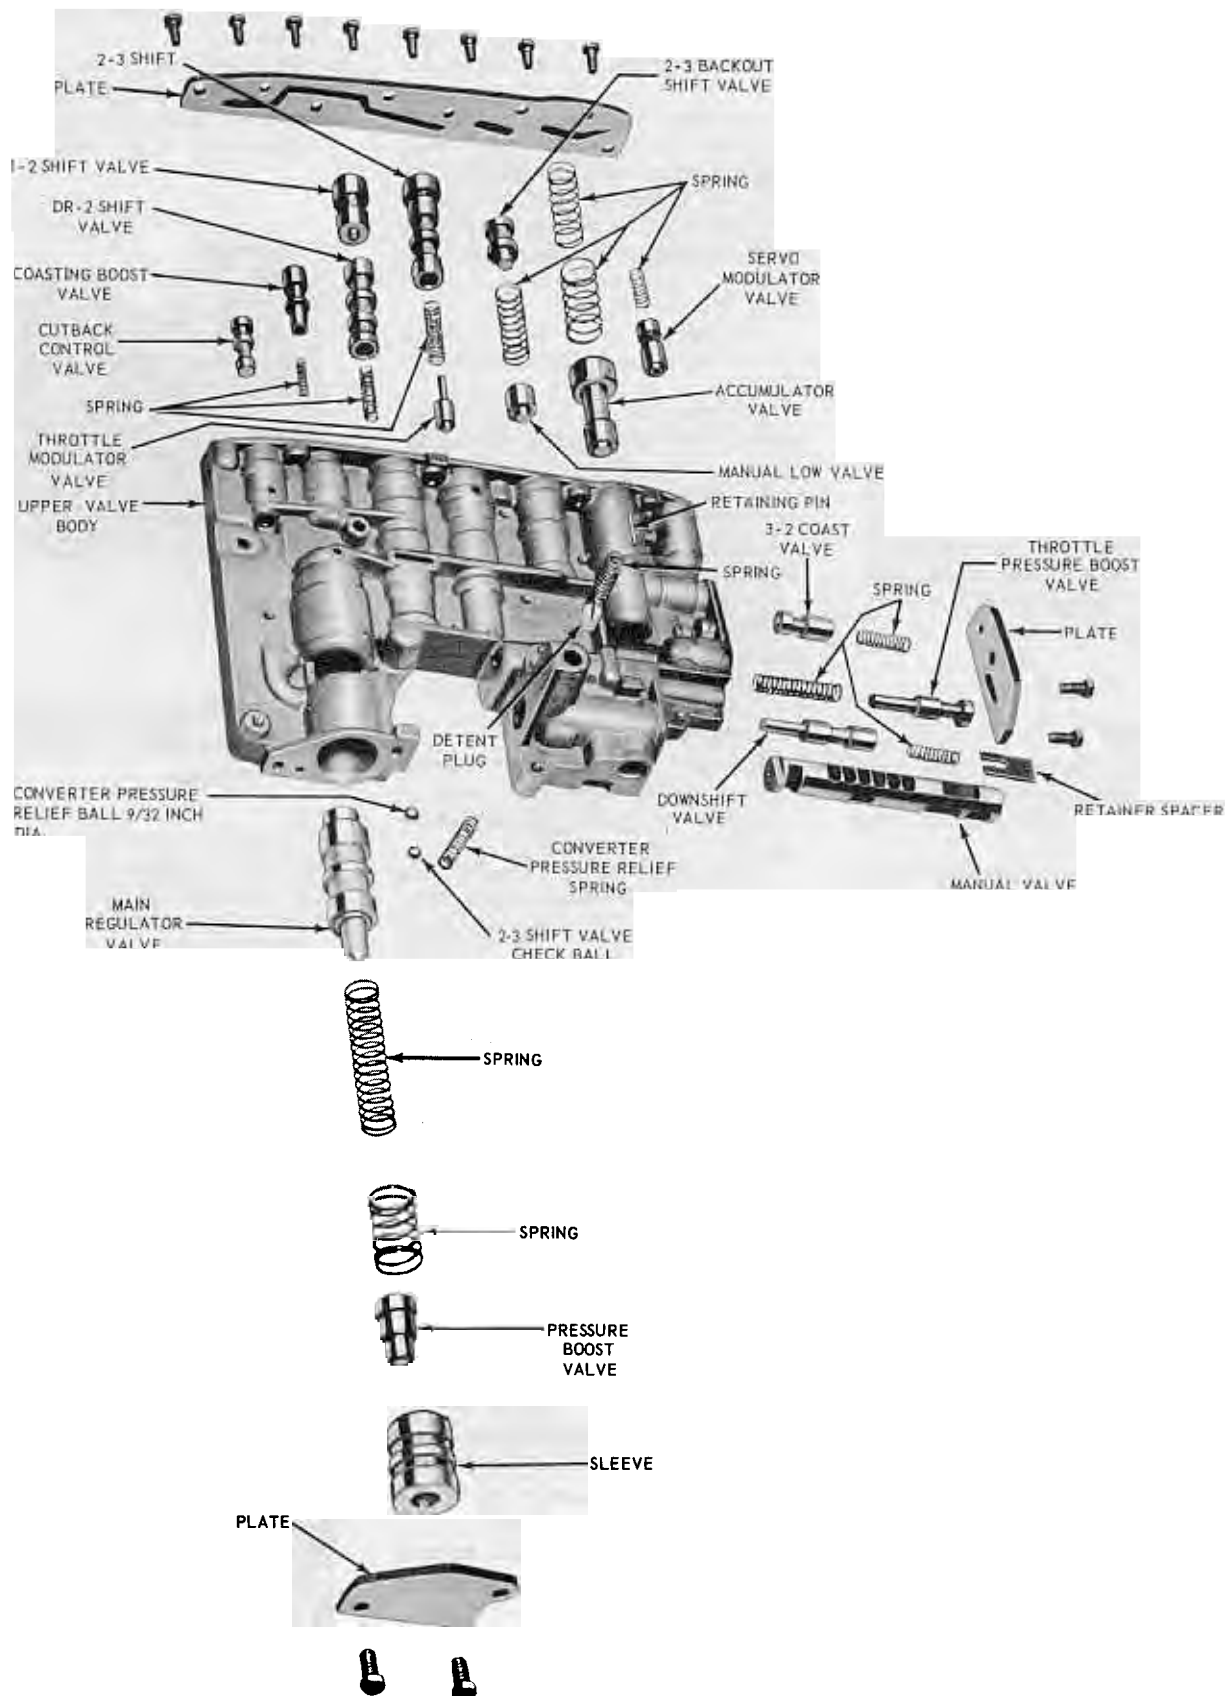

FIG. 39—Upper Valve Body Disassembled
5. Slide the manual valve (Fig. 39) out of the valve body.
11. When removing the various valves from the control valve body, keep all ports covered with your fingers except the bore the valve is being removed from. Remove the 1-2 shift capacity scheduling and accumulator valves and springs (Fig. 39) from the valve body.
1. Place the cut back control valve (Fig. 39) in the valve body.